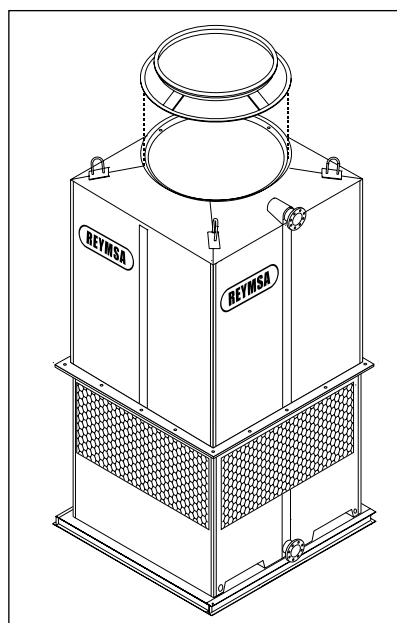
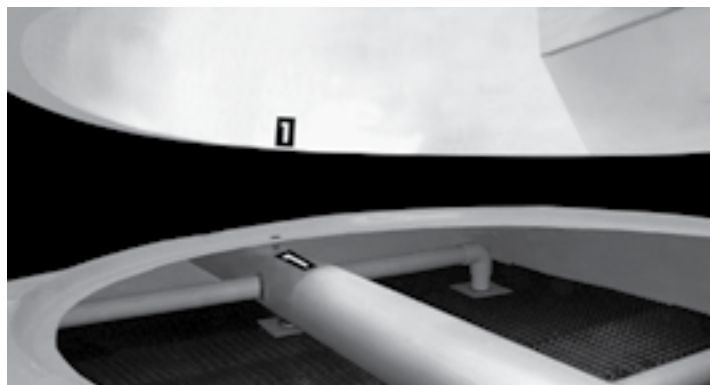

Figure A-125: Fan adaptor installation
Figure A-126: Fan adaptor alignment
- A.** Before installing the Fan Duct (see sections A.2, A.3, A.5 for reference), place the Fan Adaptor on the receiving flange located on top of the Tower (see Figure A-125); make sure the bolt holes and the marks inside the Fan adaptor are aligned (Figure A-126). Then secure it using the stainless steel nut and bolt sets supplied by REYMSA.